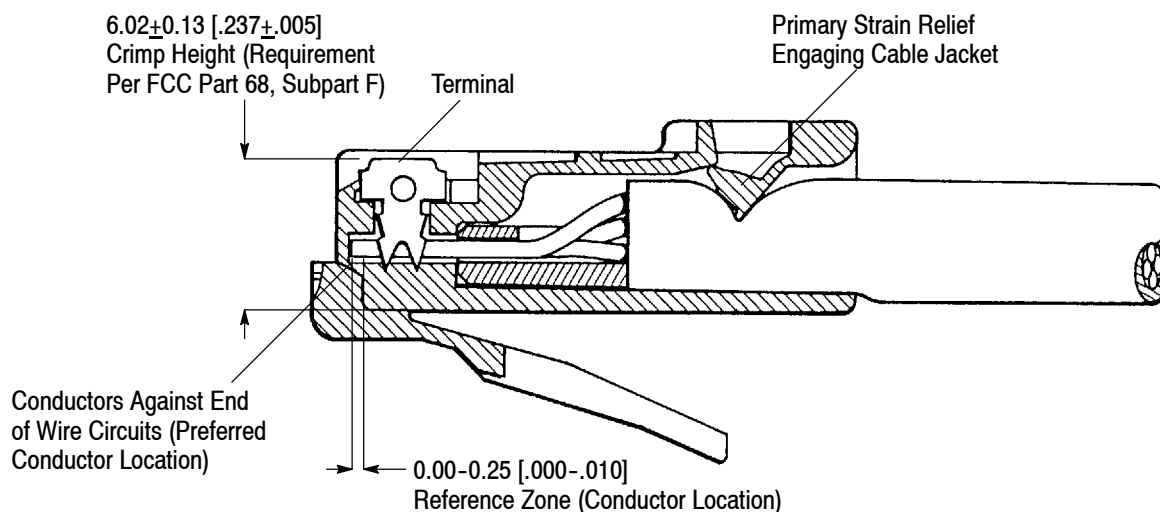

Figure 6
4. After termination, it is preferred that all conductors are bottomed against the end of the wire entry circuits. If individual conductors are not completely inserted in the housing, they must be inserted at least past the terminal and into the reference zone to ensure a proper electrical interface. Refer to Figure 6.
The crimp height shall be measured from the top of the terminals to the bottom of the housing (not including locking tab) and must be within the dimension provided in Figure 6.
The primary strain relief must be fully engaged on the cable jacket. The primary strain relief must be fully engaged to isolate the termination area from external forces applied to the cable. It is acceptable for the primary strain relief to cut into the jacket as long as the conductor insulation is not compromised. See Figure 6.